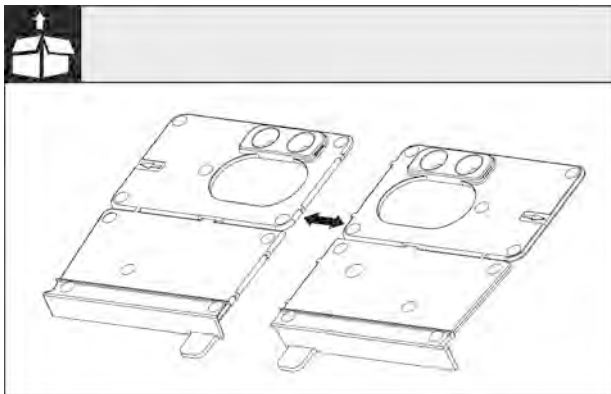

Fig. 27 Floor mounting bracket
- ▶ Separate the floor mounting bracket Fig. 27 () at the perforation.